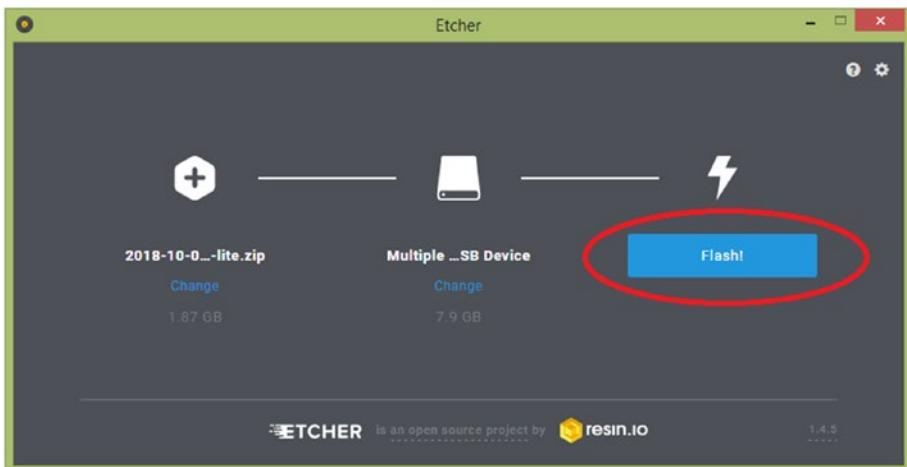

Figure 5-6. Flashing the image
5. Review your selections and click the Flash! button to begin writing data to the microSD card (Figure 5-6).